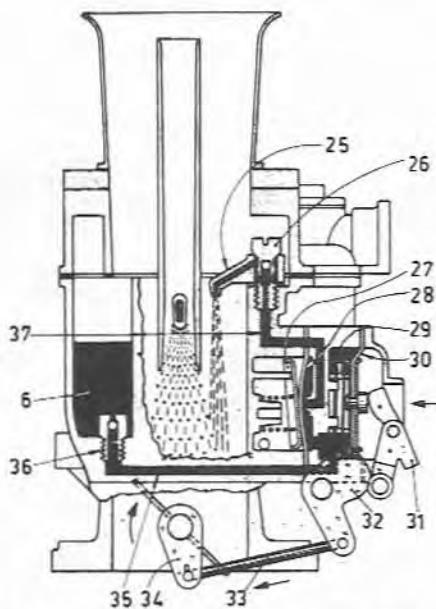

Fig. 8.8 Acceleration (triple choke types) (Sec 3)
Refer to Fig. 8.8 and note that when the throttle valves are closed, the spring (29) pushes the diaphragm (30) outwards and fuel is drawn from the float washers (6), through the inlet valves (36), along the channels (35) and into the pump chamber. When the throttle valves are opened, the lever (34) pulls the linkage (33) and the cam (32) causes the lever (31) to depress the diaphragm (30) against the tension of the spring (29). Fuel is forced past the release diaphragm (28) when the plate (27) moves against the reaction spring and then travels through the channels (37) to the delivery valves (26). It is then injected through the pump jets (25) into the carburetor barrels in the vicinity of the auxiliary venturi. The inlet valve(s) (23) may incorporate a calibrated discharge hole whereby some fuel returns to the float chambers; the size of the hole depending on the particular application.